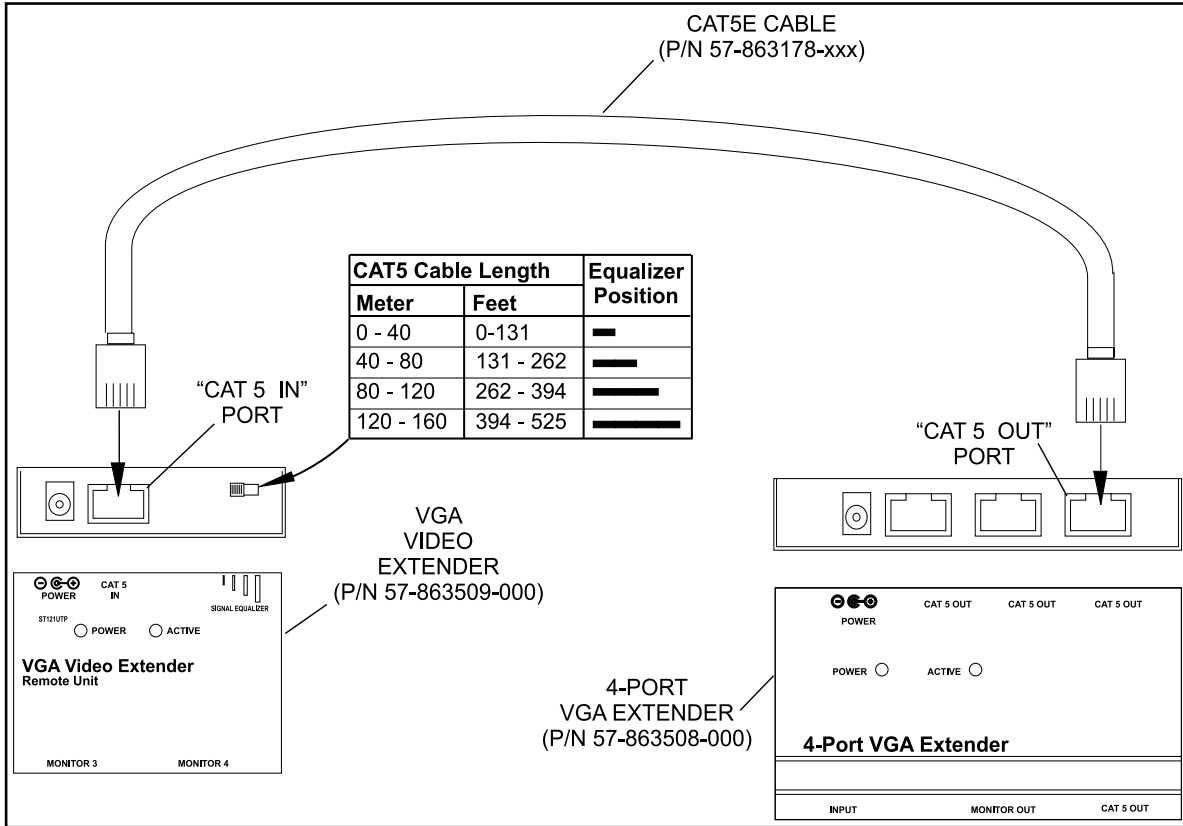

Figure 3. CAT5e Cable
1. Connect one Cat5e cable (P/N 57-863178-xxx) for each LCD display, to the 4-Port VGA Extender (P/N 57-863508-000). Refer to *Figure 3*.